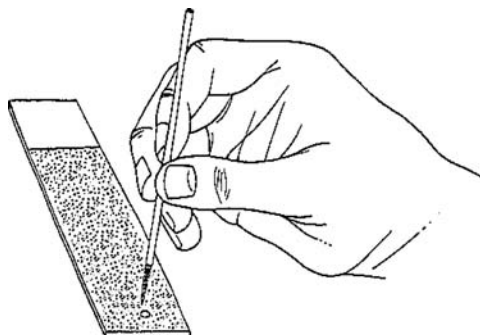
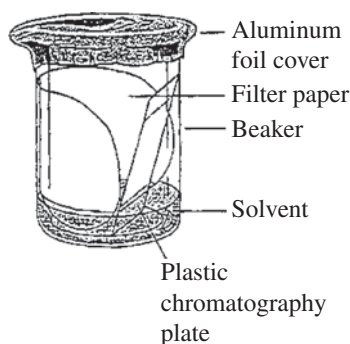

Figure 36.3
Figure 36.4
- For spots no. 1 and no. 5, use your isolated methyl esters obtained from corn oil. For spot no. 2, use methyl oleate; for spot no. 3, methyl linoleate; and for spot no. 4, methyl palmitate. Use a separate capillary tube for each sample. In spotting, apply each sample in the capillary by gently touching the plate until it spreads to a spot of 1 mm diameter (Figure 36.3). Dry the spots with a heat lamp. Pour about 15 mL of solvent (hexane:diethyl ether; 4:1) into a 500-mL beaker. Place the spotted TLC plate diagonally for ascending chromatography. Make certain that the spots applied are **above** the surface of the eluting solvent. Cover the beaker lightly with aluminum foil to avoid excessive solvent evaporation (Figure 36.4).